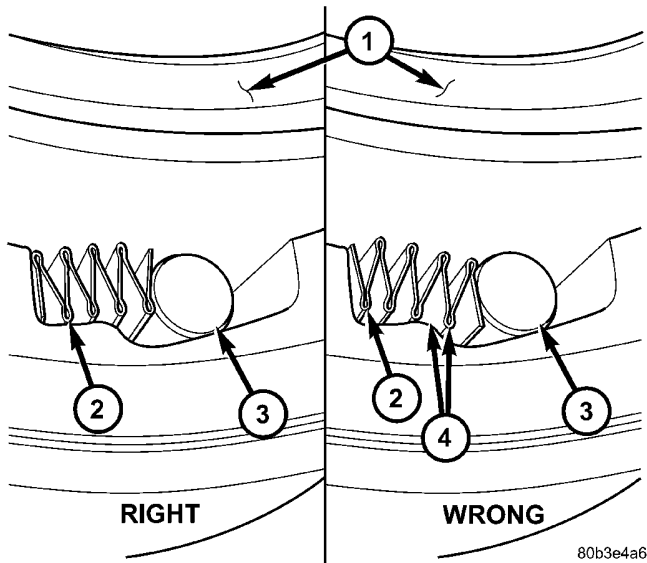

Fig. 48 Proper Spring/Roller Orientation
(4) Orient springs as shown on left side of (Fig. 48).